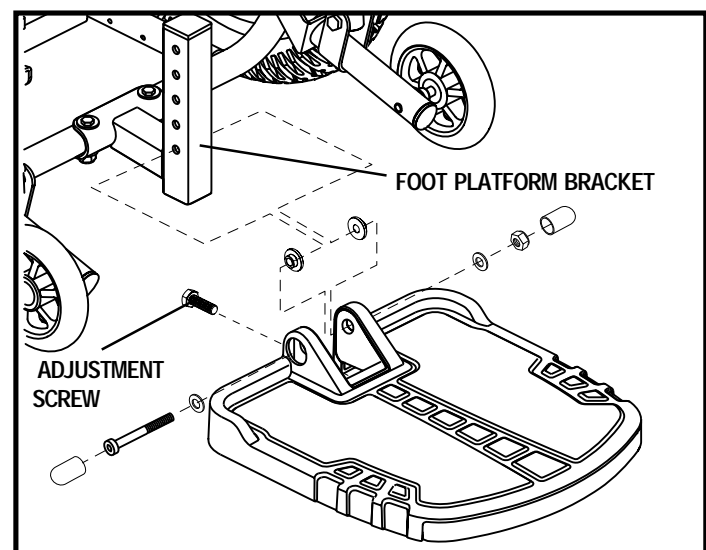

Figure 16. Foot Platform Adjustment
1. Remove the hardware from the foot platform bracket as shown in figure 16.
You can adjust the angle of the foot platform with a wrench. See figure 16.